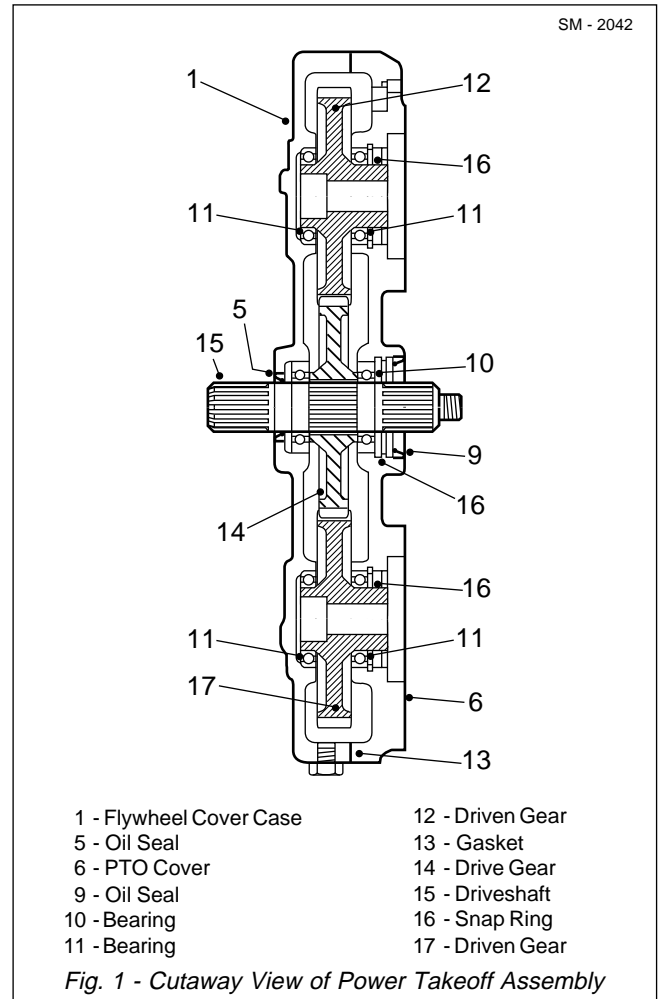

Fig. 1 - Cutaway View of Power Takeoff Assembly
Numbers in parentheses refer to Fig. 1.
4. Drain oil from power takeoff housing by removing drain plug (14) from flywheel cover case (1, Fig. 1). Reinstall drain plug (14) securely.
5. Match mark main hydraulic pump mounting flange and PTO cover (6, Fig. 1) so that the pump can be installed in the same position at installation.
6. With suitable blocking or lifting equipment, support the main hydraulic pump before loosening attaching nuts. Remove nuts and lockwashers from main hydraulic pump mounting studs and secure pump clear of PTO assembly (1).
7. Match mark tandem pump mounting flange and PTO cover (6, Fig. 1) so that the pump can be installed in the same position at installation.
9. Match mark engine flywheel housing and flywheel cover case (1, Fig. 1) so that PTO assembly (1) can be installed in the same position at installation.
10. Attach a suitable lifting device to PTO assembly (1) and remove bolts (2 & 3) and lockwashers (4) securing PTO assembly (1) to the engine flywheel housing. Carefully lower PTO assembly (1) from the flywheel housing and move to a clean work area for disassembly.